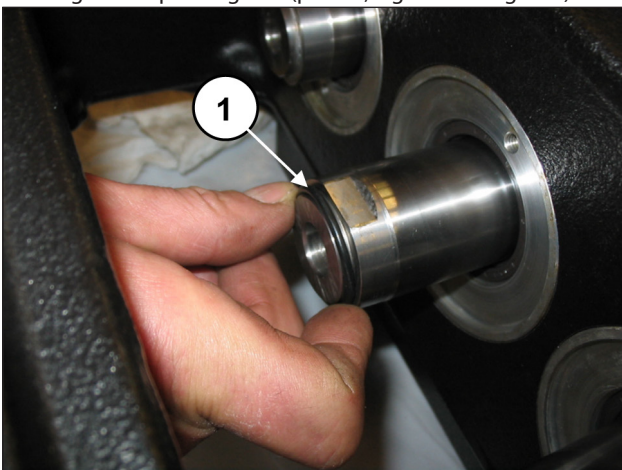
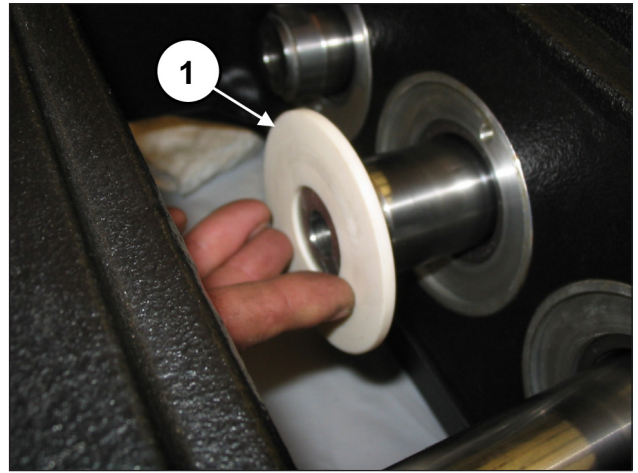

Fig. 99
Fig. 100
Position the spray-guard together with the O-ring in the housing on the piston guide (pos. ①, Fig. 99 and Fig. 100).